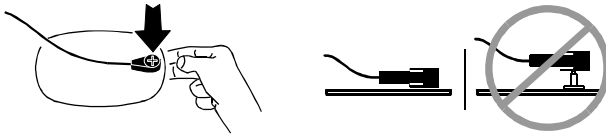

**Figure 5-4** Connecting FAST-PATCH Electrodes to Defibrillation Cable
- 2 Support the electrode post when attaching the defibrillation cable (see Figure 5-4). Firmly press the cable onto the electrode until a click is heard or felt.